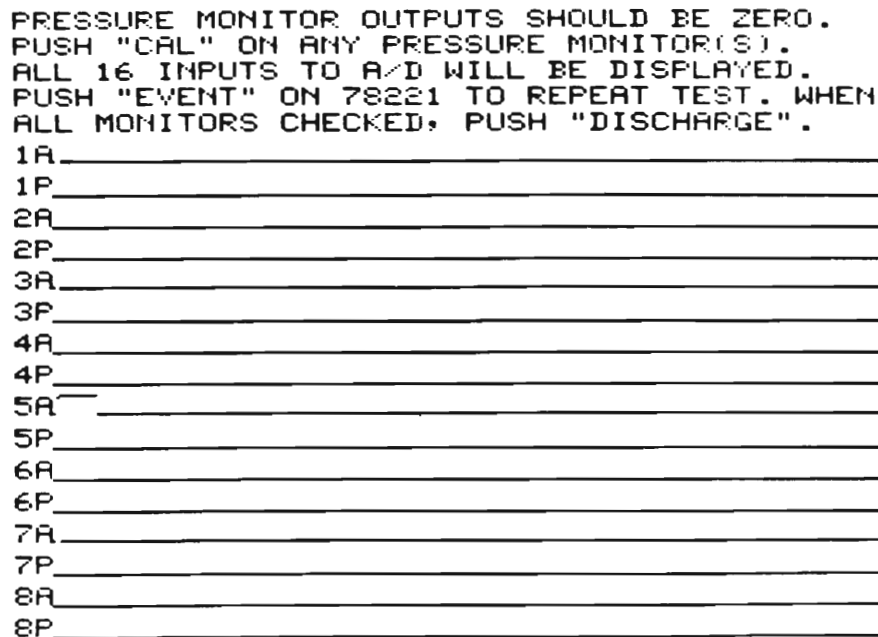

Figure 3-16. Pressure Monitor Test CAL Signal, Bed 5
3-49. If all multiplexer channels test normal, disconnect the Pressure Test Cable and reconnect the system cables at the 91000A and 12554A circuit cards. Push RUN to display the message shown in Figure 3-16 at 78512.
- c. Verify that the CAL pulse appears somewhere along the display for the bedside being tested. Figure 3-16 shows an example of this pulse appearing for arterial pressure at bedside 5. Note that all other channels have straight lines across the display. A CAL pulse appearing on any channel other than the one being tested indicates system miswiring. Lines at the display will be unpredictable if the lines are "floating" due to a 78205 bedside module being unplugged.